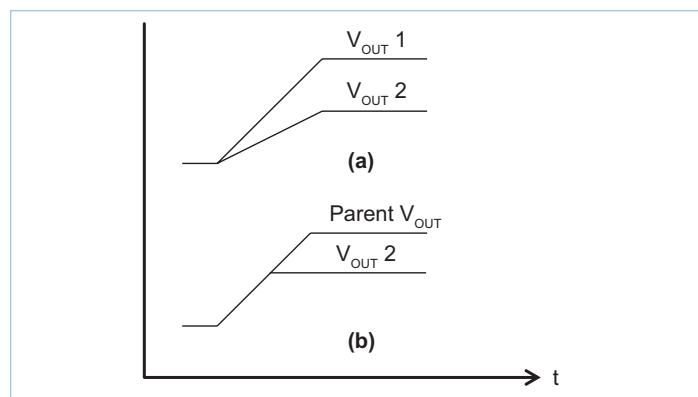

Figure 61 — PI33xx-x0 tracking methods
There is typically either proportional or direct tracking implemented within a design. For proportional tracking between several regulators at start up, simply connect all devices TRK pins together. This type of tracking will force all connected regulators to start up and reach regulation at the same time (see Figure 61(a)).
All connected regulators' soft-start slopes will track with this method. Direct tracking timing is demonstrated in Figure 61(b). All tracking regulators should have their Enable (EN) pins connected together to work properly.